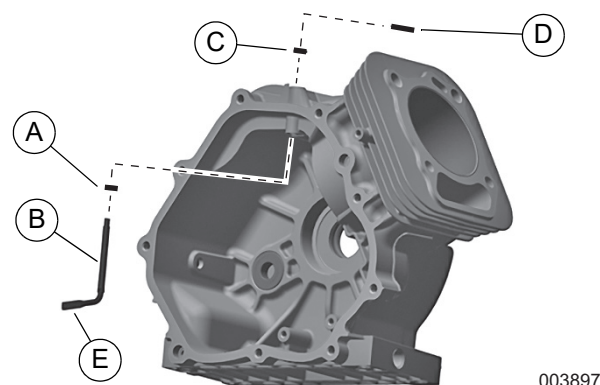

Figure 14-4. Install Governor Rod
1. See Figure 14-4. Place governor washer (A) on governor rod (B). Slide governor rod through hole in crankcase.